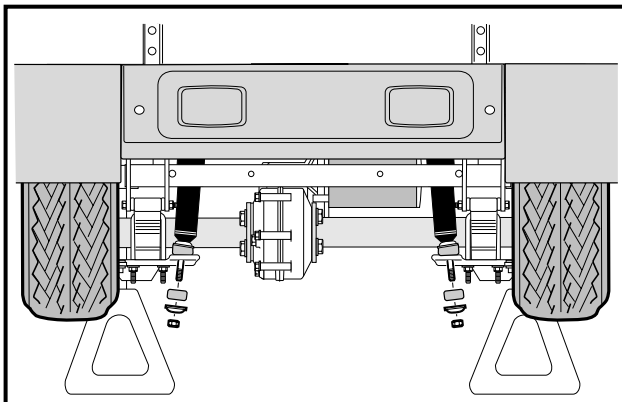
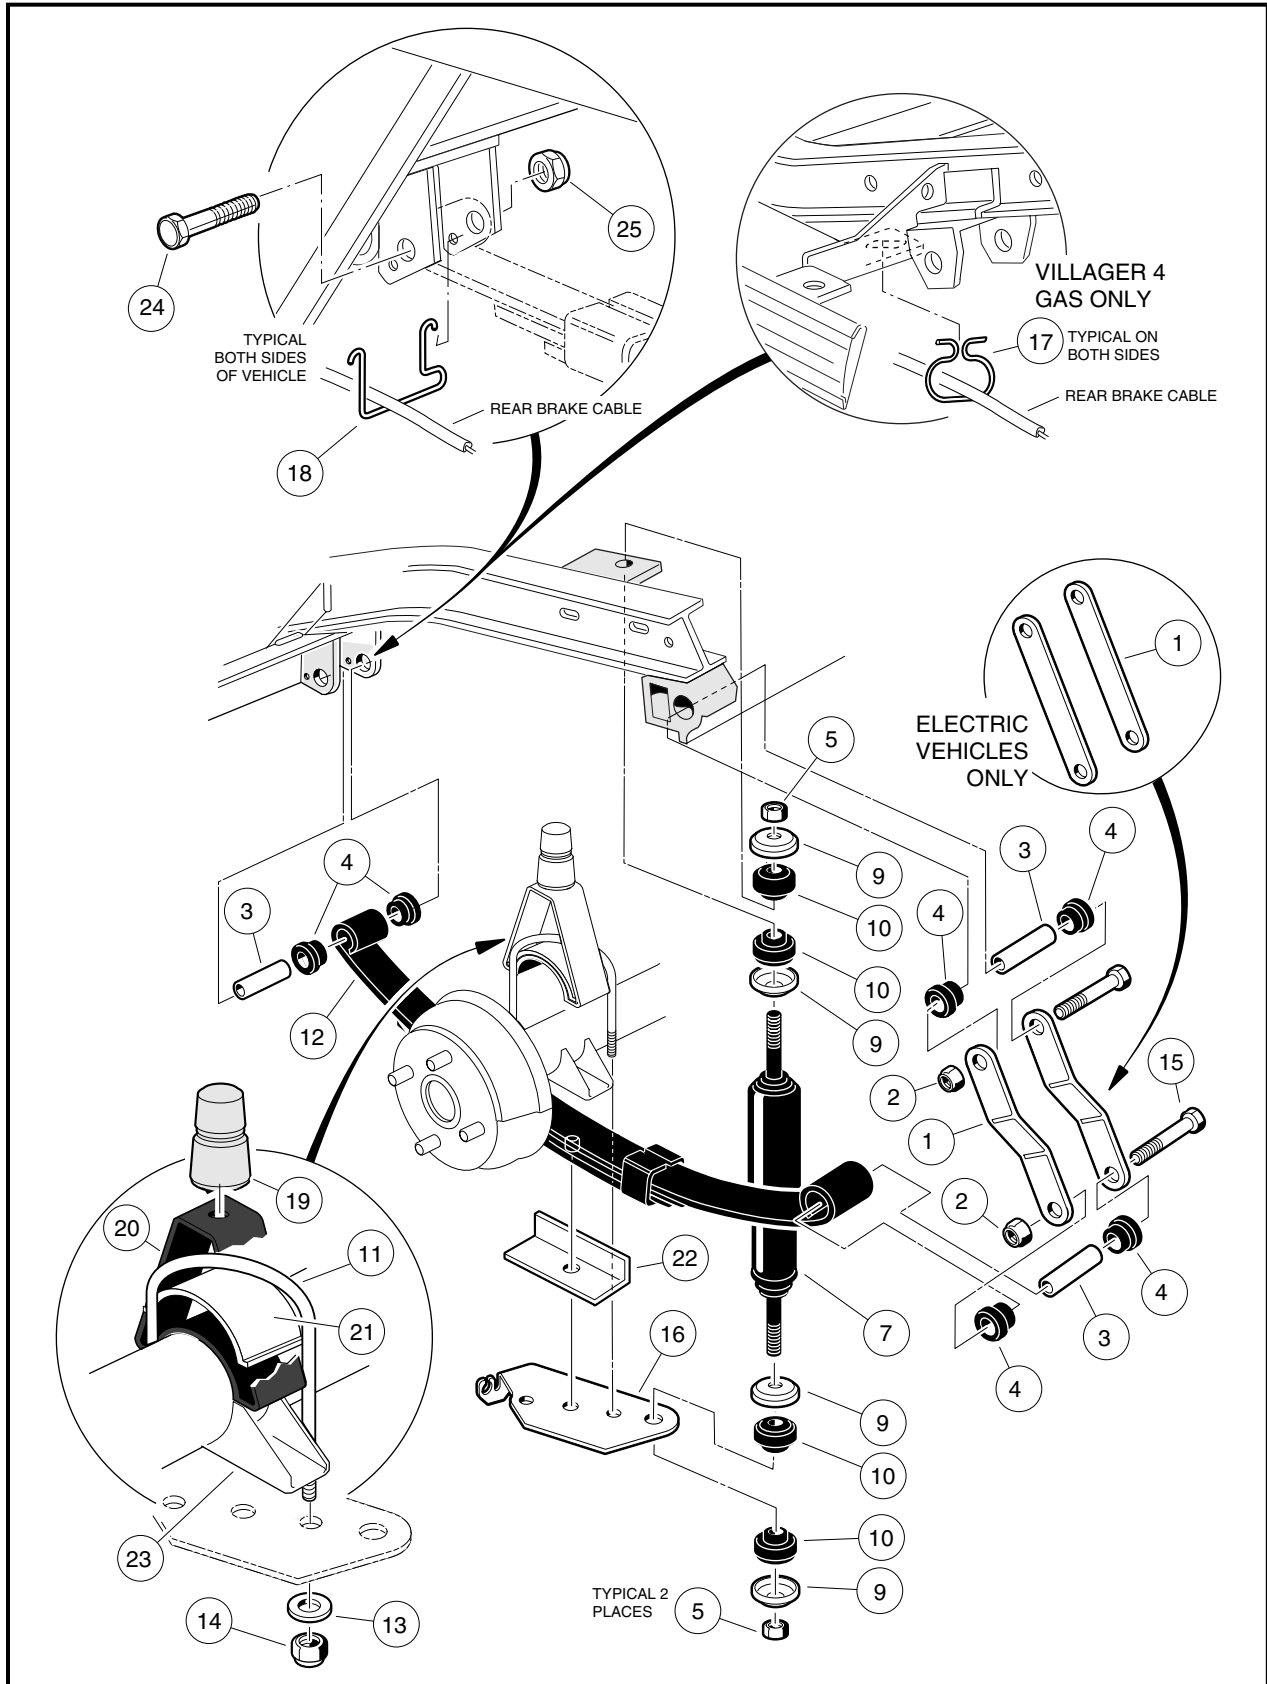
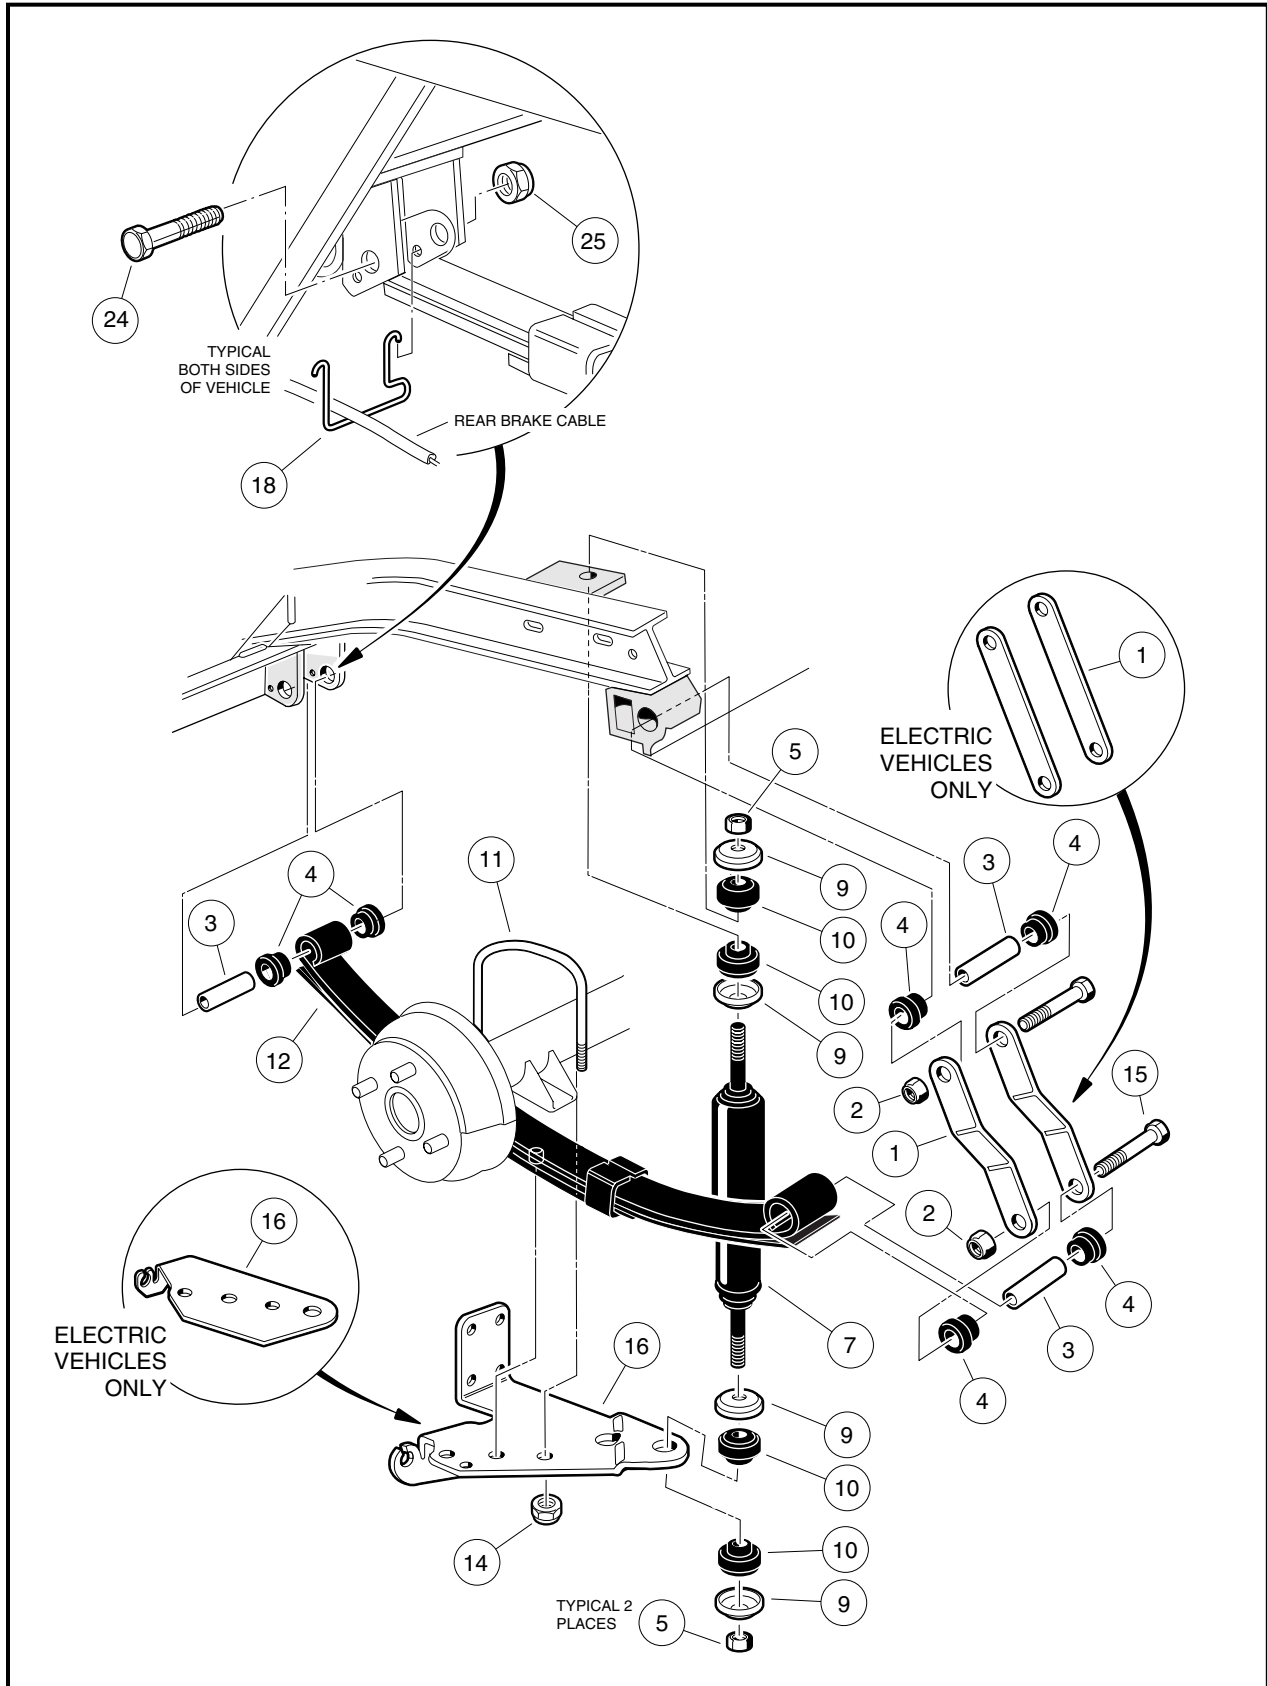

Figure 9-1 Remove Shock Absorbers
Figure 9-3 Rear Suspension – Villager 4 Vehicles
Figure 9-4 Rear Suspension – All Transportation Vehicles Except Villager 4
1. Check shock absorbers (7) for damage and fluid leakage around the lower housing of the shock absorber body. Replace damaged or leaking shock absorbers (**Figure 9-3, Page 9-4 or Figure 9-4, Page 9-5**).
2. To remove a shock absorber (7), remove the nut (5), cup washer (9), and rubber bushing (10) from the upper shock absorber stem.
3. Remove lower mounting hardware (5, 9 and 10) on shock absorber lower mount (**Figure 9-3, Page 9-4 or Figure 9-4, Page 9-5**). See also **Figure 9-1, Page 9-1**.
2. On the upper shock absorber mount, tighten nut (5) until rubber bushing (10) expands to size of cup washer (9) (**Figure 9-3, Page 9-4** or **Figure 9-4, Page 9-5**).
3. On the lower shock absorber mount, install mounting hardware. Tighten the nut (5) until the rubber bushing (10) expands to the same diameter as the cup washer.
NOTE: Villager 4 vehicles are equipped with jounce bumpers (**Figure 9-3, Page 9-4**).
5. Remove lower nut (5), cup washer (9), and rubber bushing (10) from shock absorber (7) (**Figure 9-3, Page 9-4 or Figure 9-4, Page 9-5**).
- 6.1. Remove the lock nuts (14) and flat washers (13) (if present) attaching the U-bolt (11) to the shock mount bracket (16). Remove jounce bumper mount (20) and spacer (21) (**Figure 9-3, Page 9-4**).
- 6.2. Allow shock mount bracket (16) to rotate downward and remove spring retainer (22). Do not disconnect brake cable from bracket (**Figure 9-3, Page 9-4**).
- 7.1. Remove the lock nuts (14) attaching the U-bolt (11) to the shock mount bracket (16). Do not disconnect brake cable from bracket (**Figure 9-4, Page 9-5**).
8. Raise axle with floor jack until axle saddle (23) is 1 inch (2.5 cm) above spring (**Figure 9-3, Page 9-4**).
9. Remove bolt (15) and lock nut (2) attaching the leaf spring (12) to the rear shackle (1) (**Figure 9-3, Page 9-4 or Figure 9-4, Page 9-5**).
10. Allow rear of leaf spring (12) to rest on the ground and remove the bolt (24) and lock nut (25) attaching the front of the spring to the vehicle frame (**Figure 9-3, Page 9-4 or Figure 9-4, Page 9-5**). Remove spring from vehicle.
11. Inspect the rubber bushings (4) and steel sleeves (3) in the spring eyes and replace them if they are worn or damaged (**Figure 9-3, Page 9-4 or Figure 9-4, Page 9-5**).
1. Install rubber bushings (4) and steel sleeves (3) into leaf spring eyes if bushings were removed (**Figure 9-3, Page 9-4 or Figure 9-4, Page 9-5**).
2. Place front of leaf spring (12) into vehicle frame and insert bolt (24) through frame and leaf spring eye. Install lock nut (25) and tighten to 15 ft-lb (20.3 N·m).
3. Align the other end of leaf spring with the holes in the spring shackles (1). Insert bolt (15) through leaf spring eye and shackles. Install lock nut (2) and tighten to 15 ft-lb (20.3 N·m). Lower transaxle onto leaf spring (12). **See following CAUTION.**
- When placing transaxle on spring, be sure to position locating bolt on the spring in the locating hole in the transaxle saddle (23) (**Figure 9-3, Page 9-4**).
- 4.1. Install spring retainer (22) and shock mount bracket (16) onto locating bolt at bottom center of leaf-spring (**Figure 9-3, Page 9-4**). See preceding **CAUTION**.
- 4.2. Position jounce bumper mount (20) with spacer (21) onto axle tube. Install U-bolt (11), flat washers (13) (if present), and lock nuts (14). Tighten U-bolt to 25 ft-lb (34 N·m) (**Figure 9-3, Page 9-4**).
- 5.1. Install shock mount bracket (16) onto locating bolt at bottom center of leaf-spring (**Figure 9-4, Page 9-5**). See preceding **NOTE**.
- 5.2. Install U-bolt (11) and lock nuts (14). Tighten U-bolt to 25 ft-lb (34 N·m) (**Figure 9-4, Page 9-5**).
1. Grip jounce bumper (19) and pull from bumper mount (20) (**Figure 9-3, Page 9-4**).
1. Insert jounce bumper (19) into bumper mount (20) (**Figure 9-3, Page 9-4**). Make sure the entire circumference of bumper is seated firmly in mounting hole.